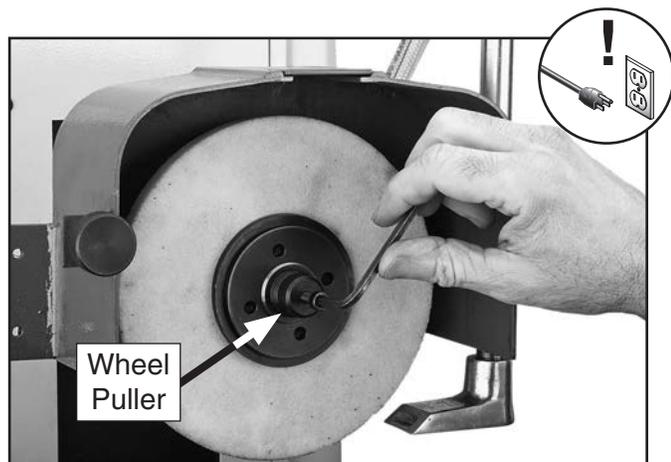

Figure 37. Using wheel puller.
4. Thread cap screw on wheel puller out and thread puller onto wheel sleeve, as shown in **Figure 37**.